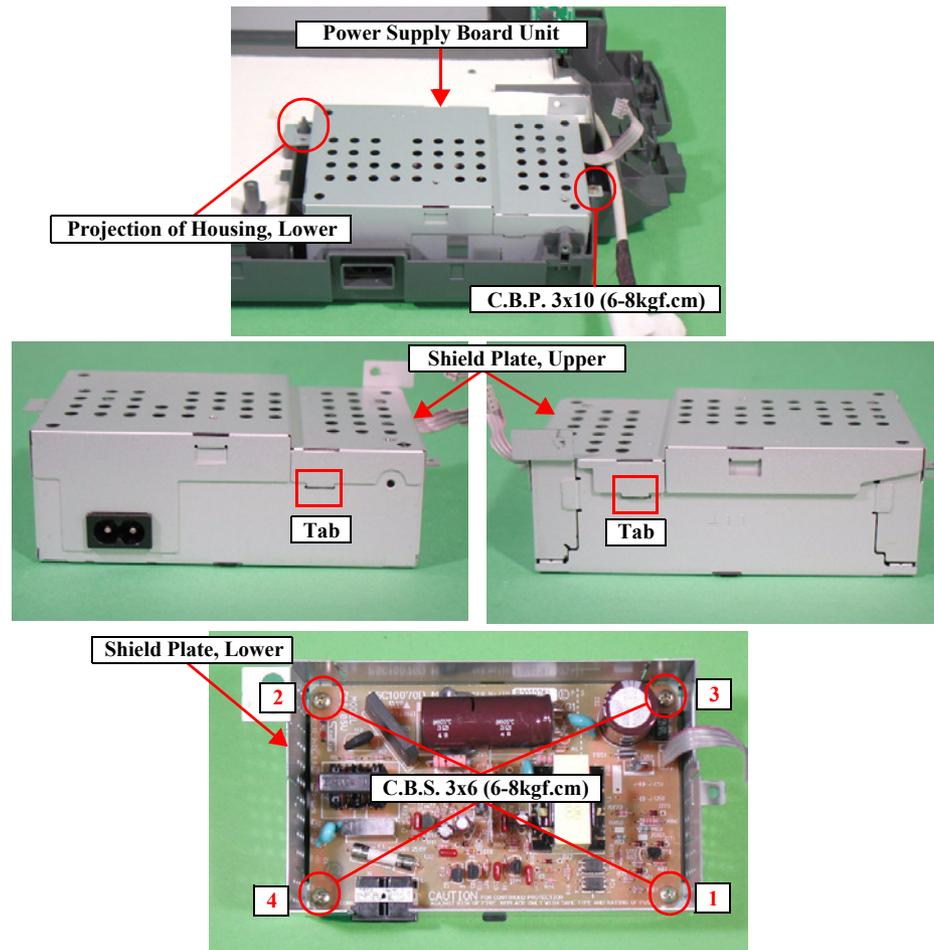

Figure 2-39. Power Supply Board Removal
- Tighten the four screws secure the Power Supply Board in the order shown in Figure2-39.